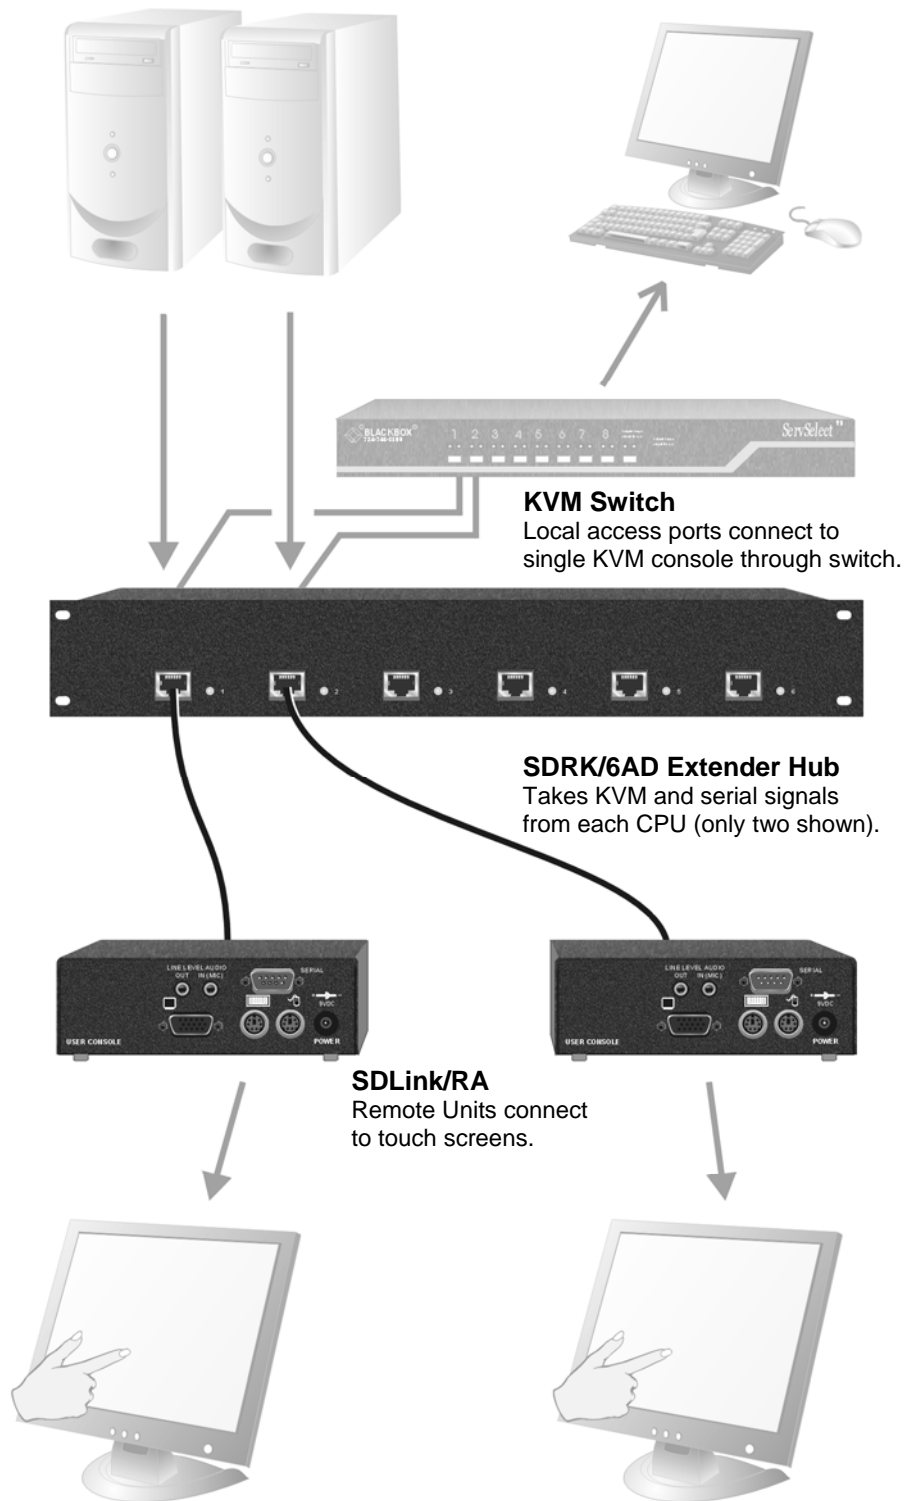

Figure 11 Touch screen network with local access to CPUs through KVM switch
- Six remote serial touch screens with local access through a KVM switch (Figure 11).